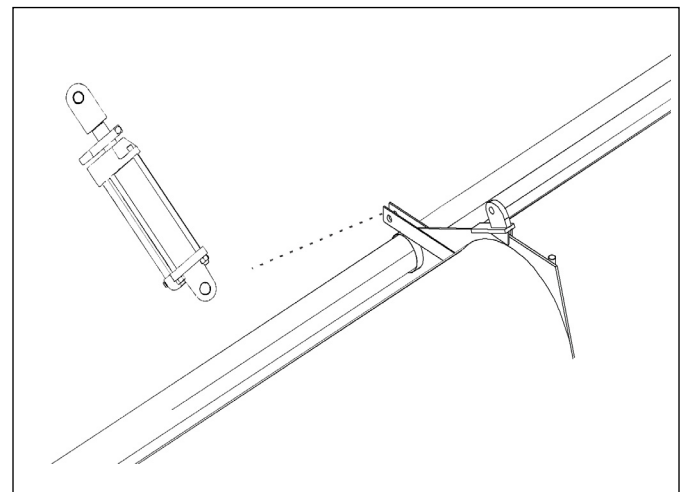

Figure 2-6: Hydraulic Cylinder
- Assemble the base of the hydraulic cylinder to the lug on the top of the shredder housing. Place the rod end clevis between the lift arms of the transport axle and secure with the pin provided. See Figure 2-6. (The distance between pin centers should be set at 28 1/4" with the cylinder fully extended).